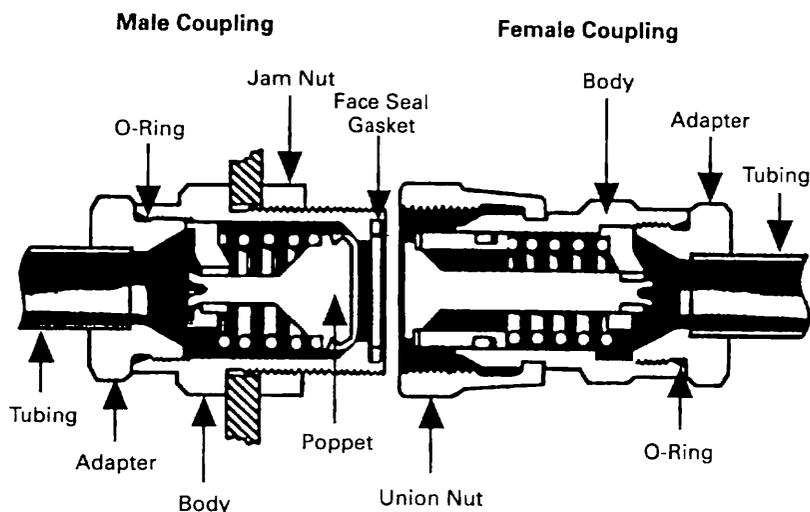
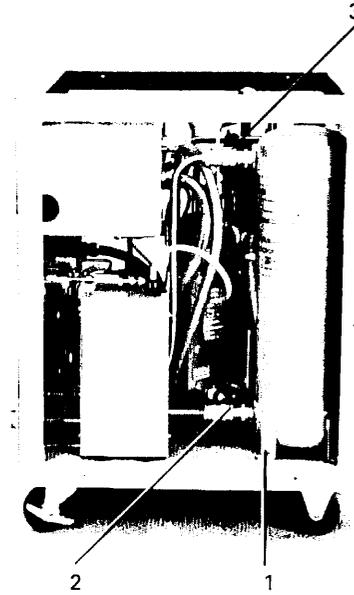

FIGURE 4.5 COUPLINGS, MALE, FEMALE
FIGURE 6.1 ADSORBER, COUPLINGS AND HARDWARE
3. Ensure that the face seal is in place on the inside periphery of the male coupling. (Fig. 4.5)
4. Place a light coat of vacuum grease on the poppet (Fig. 4.5) and face seal of the male connector.
2. Loosen and remove the two hex-head screws (Fig. 6.1; #1) which attach the adsorber to the compressor frame. This is done so that the adsorber can be moved when disconnecting it from the Aeroquip fittings.
4. Using two wrenches, as shown in figure 4.5, alternately loosen the top and bottom self sealing fittings of the adsorber (Fig. 6.1; #2 & 3) until both are completely free.